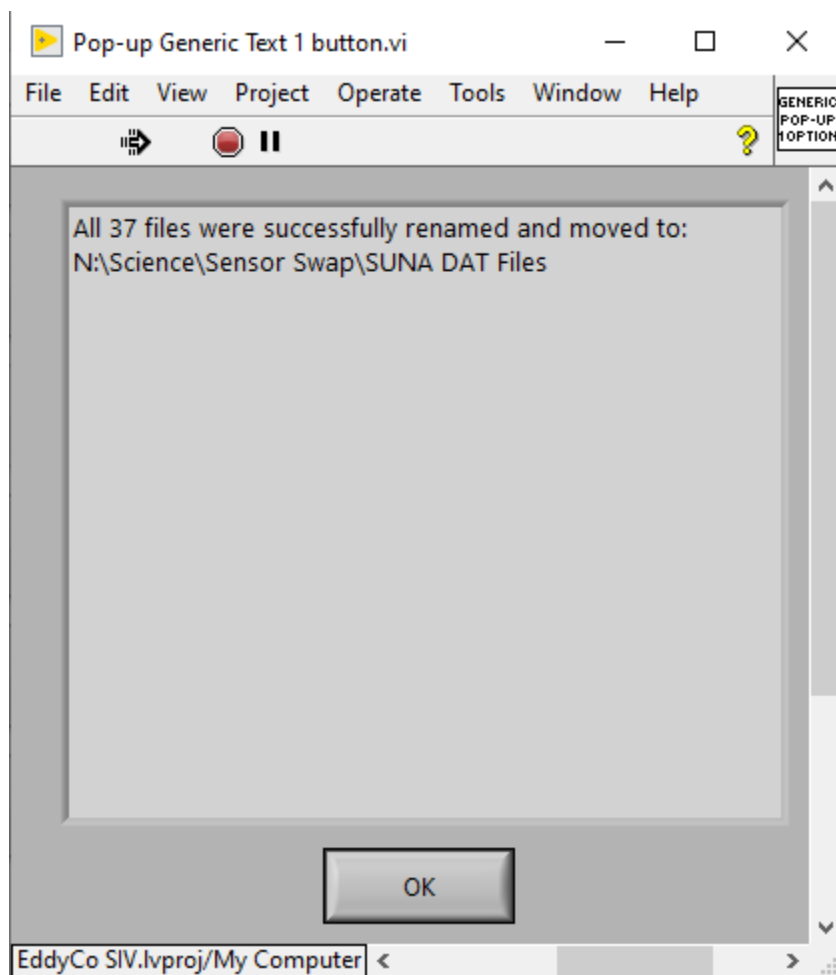

Figure 12. Successful Rename and Upload Confirmation Window
6. If all goes well, a similar dialogue window to the one in Figure 12 will appear. Click “OK”.